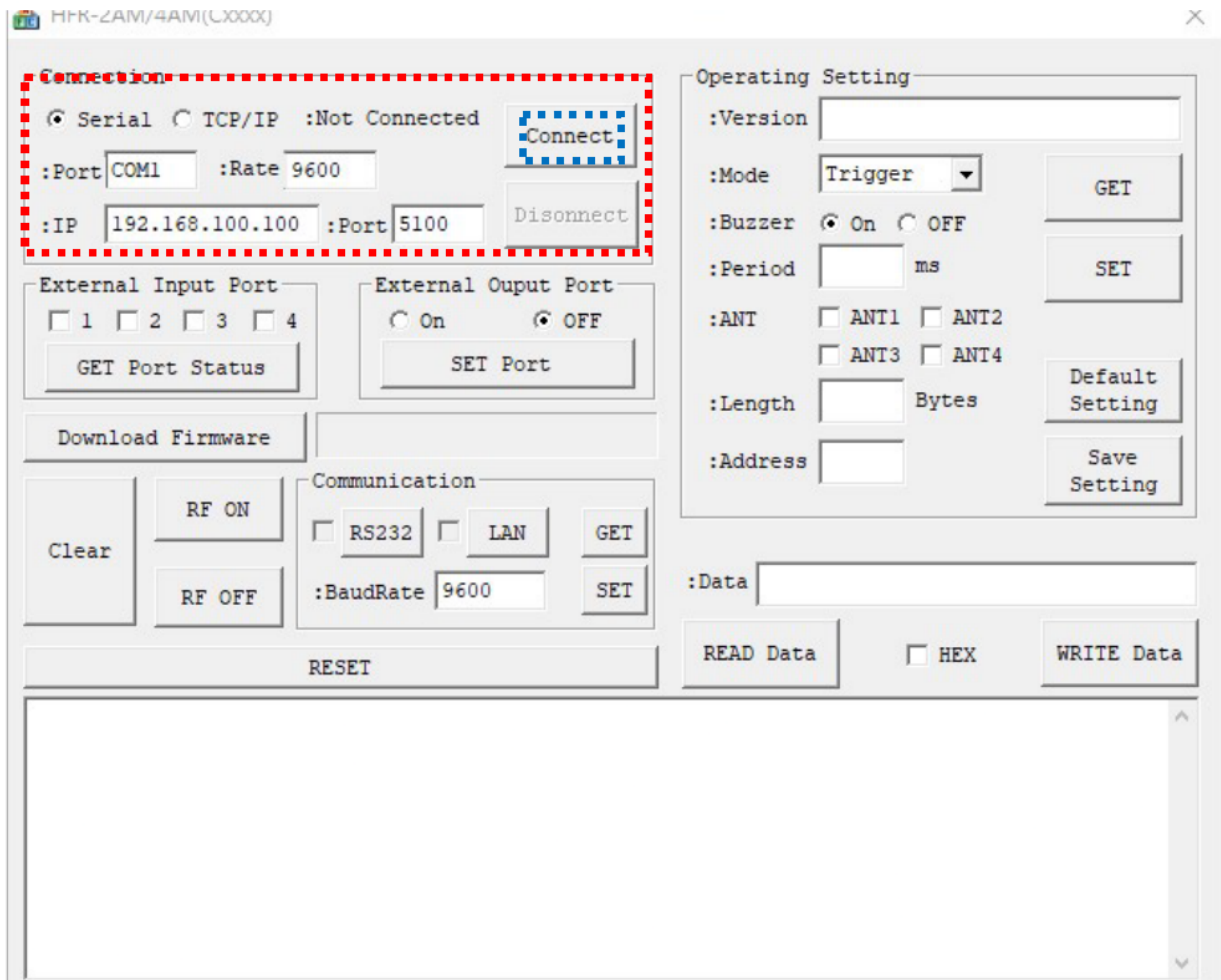

Figure 1
2. Run the program and click "OPEN" tab after setting 1 window as in "Figure 1" and Serial Connected message will be displayed. (Settings may vary by PC.)